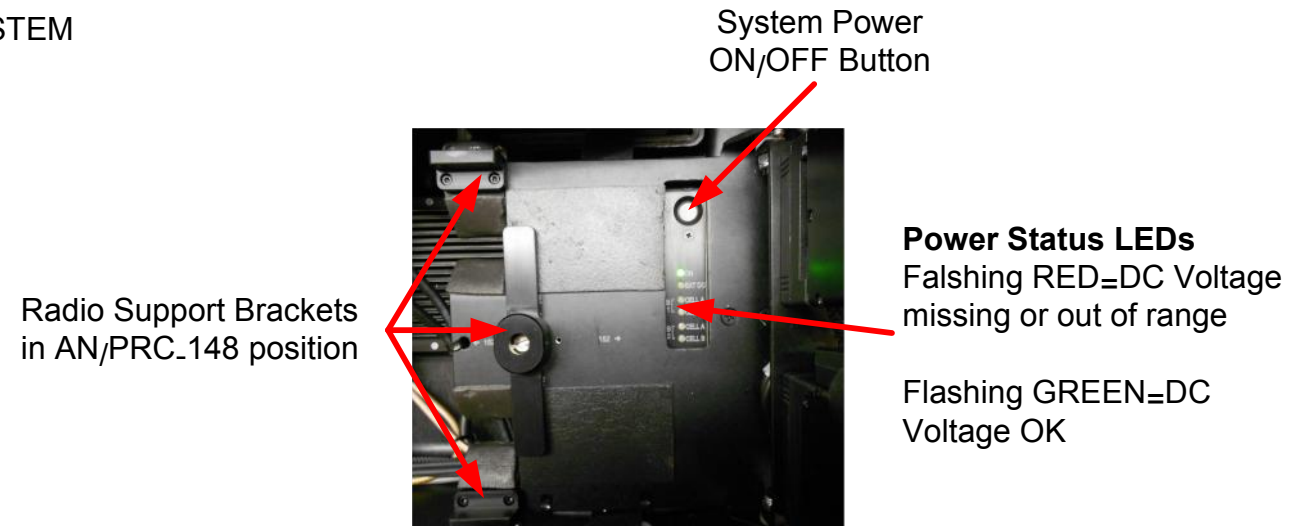

Figure 5
5. Move the radio support brackets to the appropriate position (see Figure 5 and Figure 6, brackets should cover the radio type label).
8. Turn ON the system by pressing the POWER ON button (see Figure 5, LEDs will flash sequentially and fans will turn ON for 5 seconds).